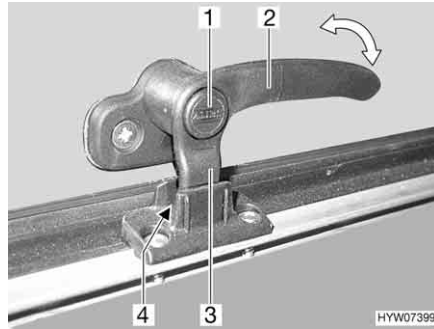
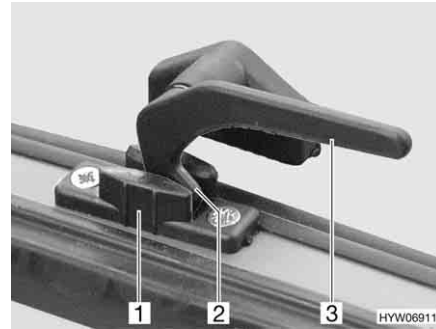

Fig. 81 Catch lever with safety knob in "continuous ventilation" position
Fig. 82 Catch lever in the "continuous ventilation" position
- "Continuous ventilation" (Fig. 81 and Fig. 82)
- Press and hold the security button (Fig. 81,1), if present.
- Turn the catch lever (Fig. 81,2 or Fig. 82,3) a quarter turn towards the centre of the window.
- Return the catch lever to its initial position. Move the locking catch (Fig. 81,3 or Fig. 82,2) on the catch lever into the recess of the window catch (Fig. 81,4 or Fig. 82,1).